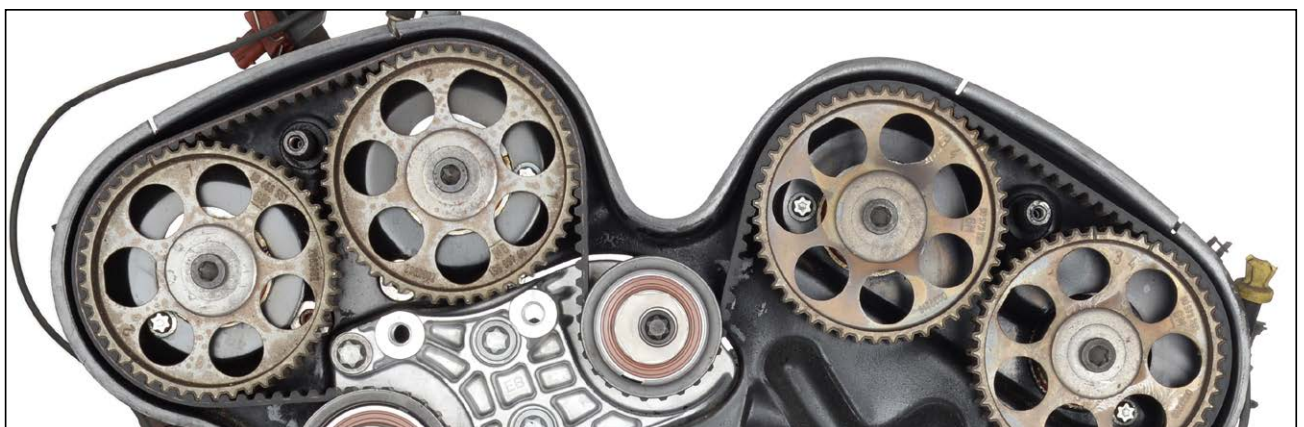

Fig. 1
1. Set the control times at the TDC marking of the first cylinder. Turn the engine using the crankshaft until the TDC marking on the camshaft gears is just before TDC (Fig. 1). The notches on the camshaft gears must be located just in front of the grooves in the rear timing gear guard.